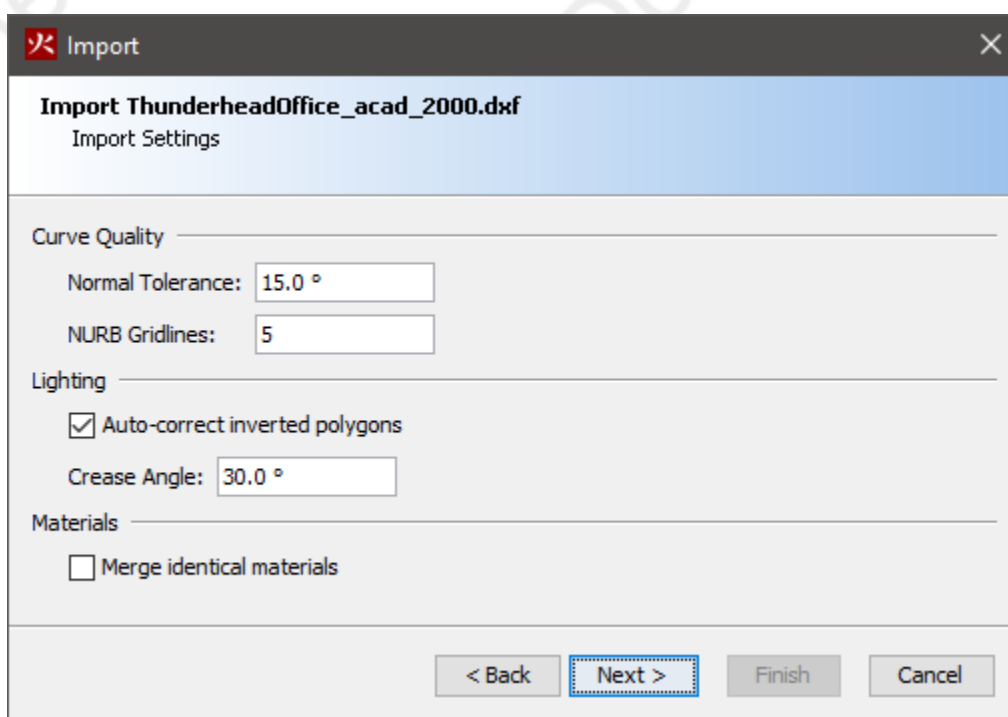

Figure 25. CAD import settings
3. **Import Settings:** The next several prompts (Figure 25) allow the user to control how some of the data is imported and to correct some data that may have been written incorrectly by the file's CAD exporter.